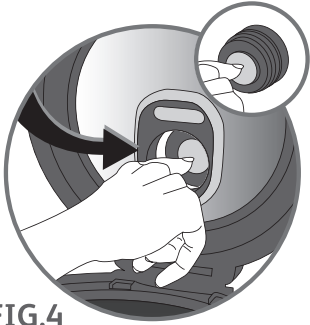
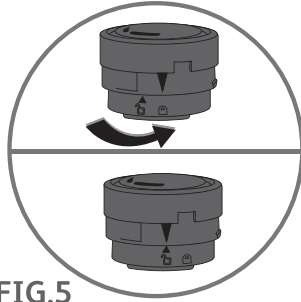
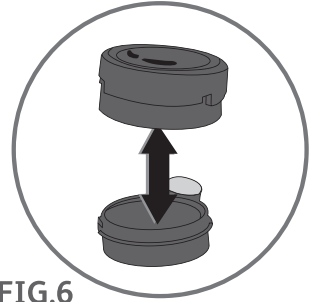

FIG.4
FIG.5
FIG.6
- After removing the inner lid, push up the micro-pressure valve through the hole on the underside of the lid with a finger – **Fig.4**. To separate the upper and lower parts of the micro-pressure valve, rotate the valve in the unlocking direction by turning the upper triangle until it is aligned with the open padlock symbol then separate – **Fig.5** and **Fig.6**.